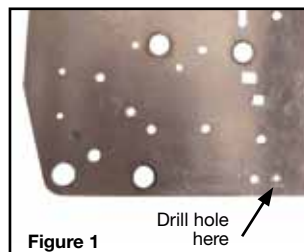

Figure 1
1. Using the 1/16" drill (included), drill through indicated hole in separator plate (see Figure 1).